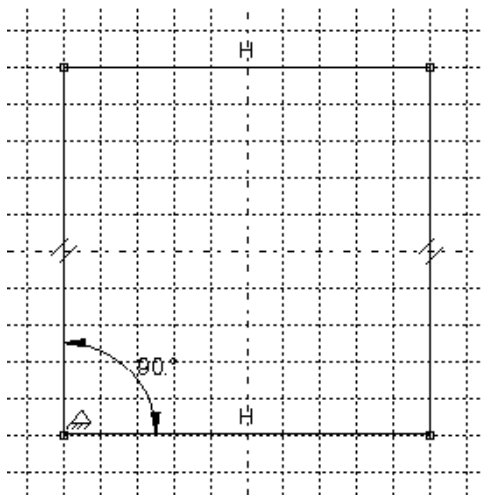

Figure 1: Dimension the angle at the lower left corner of the plate.
4. From the Sketcher toolbox, select the dimension tool  and dimension the angle at the lower left corner of the plate as shown in Figure 1.